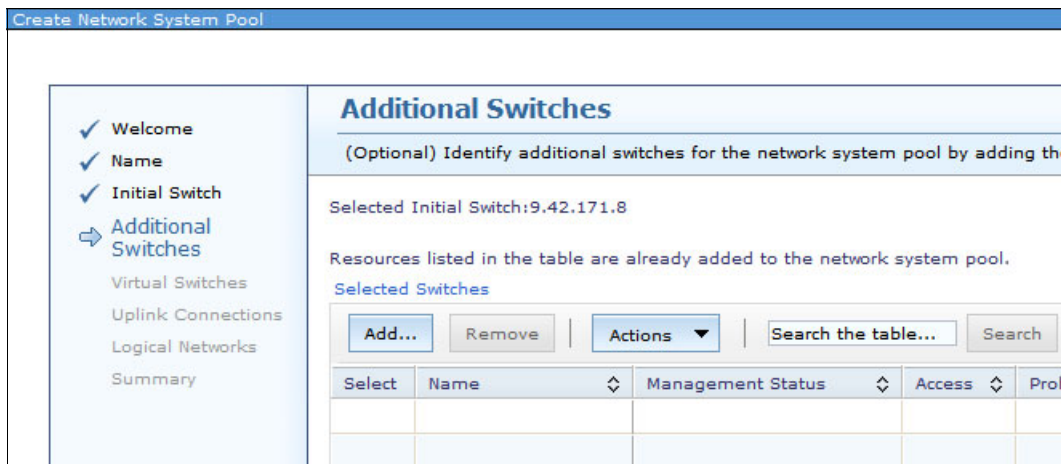

Figure 9-82 Create Network System Pool: Additional Switches
6. Optional: Select additional switches, as shown in Figure 9-82. Click **Next**.